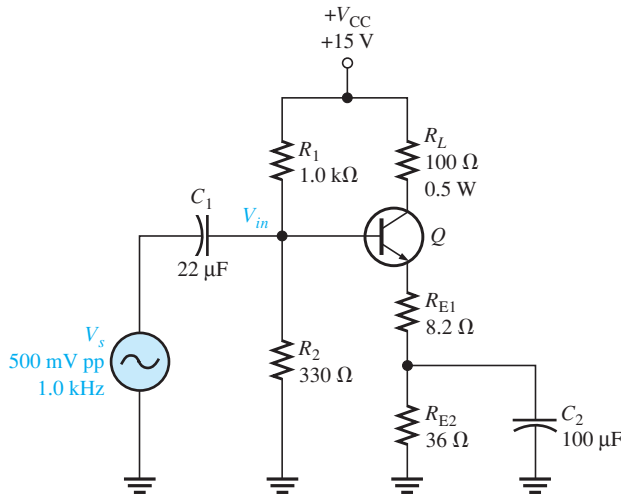

FIGURE 5-66
25. Figure 5-66 shows a CE power amplifier in which the collector resistor serves also as the load resistor. Assume $\beta_{DC} = \beta_{ac} = 100$.
- For the circuit in Figure 5-66, determine the following:
- Refer to the circuit in Figure 5-66. What changes would be necessary to convert the circuit to a *pn*p transistor with a positive supply? What advantage would this have?